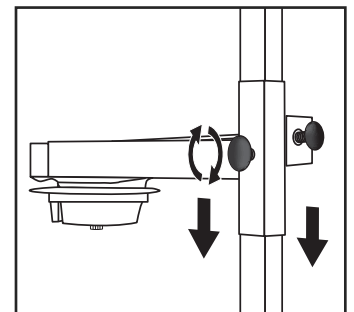

Figure 5
2. Tighten the lock knob on Head Assembly. When film is installed, position Head Assembly 4" above film. (See Figure 5)